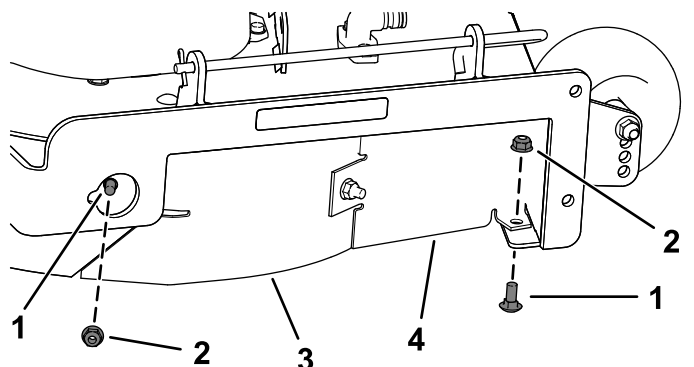

Figure 13
7. Remove the 2 carriage bolts (5/16 x 3/4 inch) and 2 locknuts (5/16 inch) securing the assembled right baffle and baffle guard to the mower deck (Figure 13).